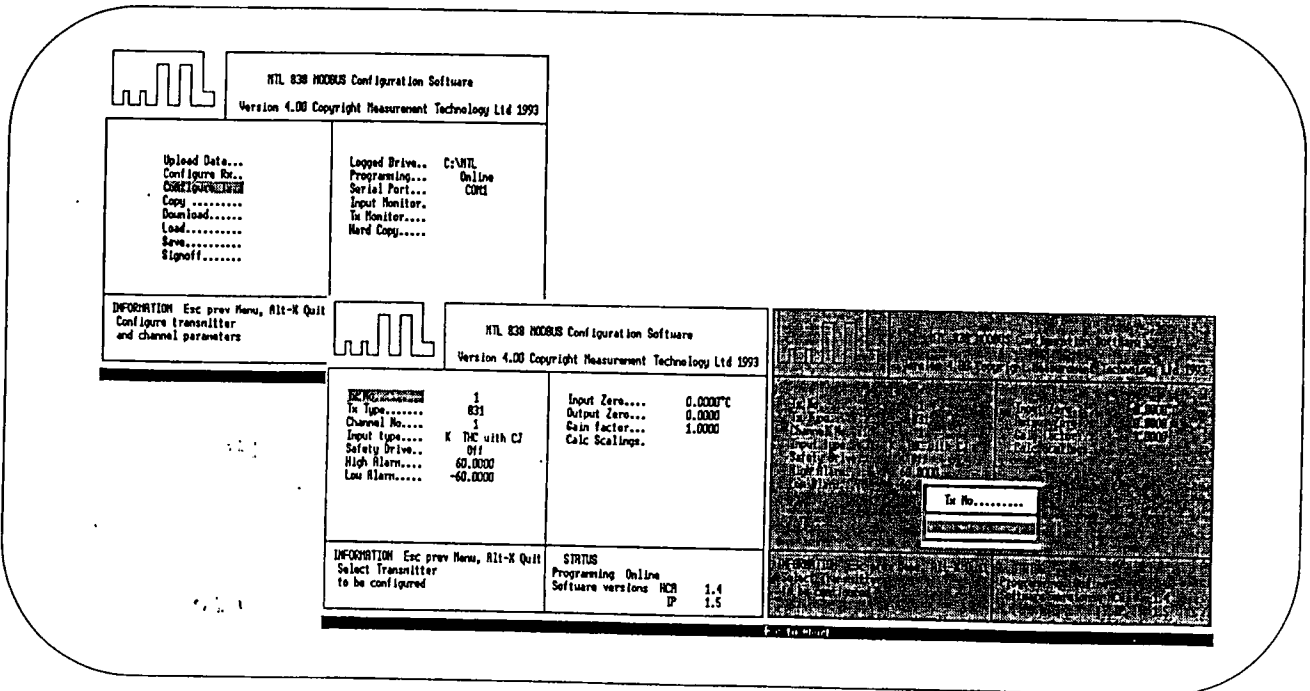

Figure 4
Allows the configuration of the transmitter through an additional pop-up screen, which again provides a further set of more detailed options. Figure 4 shows the screen changes involved upon choosing Tx No.
- ♦ **High and Low Alarm** - Initially set to the default mV values of  $\pm 60mV$ . Allows upper and lower set points to be entered. Figure 4 shows these two alarms in operation.